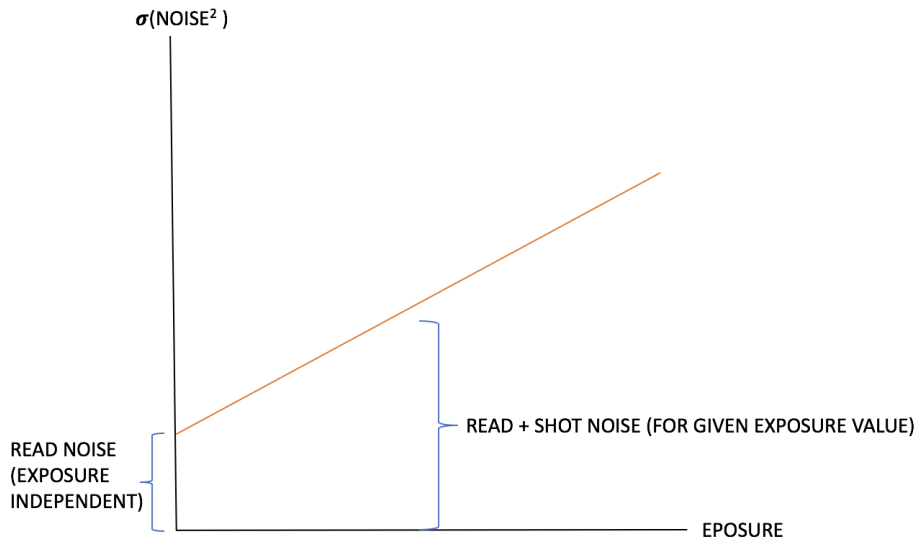

Figure 1: *EXPOSURE* vs $\sigma(NOISE^2)$
3. Repeat steps above for all the exposure values to get 100 datapoints. The expected graph must look like figure 1.